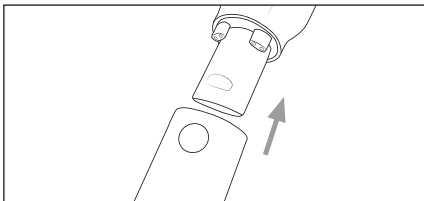

Fig. 11
- ◆ Push the 2-in-1 combination brush **13** onto the suction pipe **23** or onto the suction opening of the appliance until it clicks into place (see Fig. 11). Make sure that the locking mechanism is in the correct position.